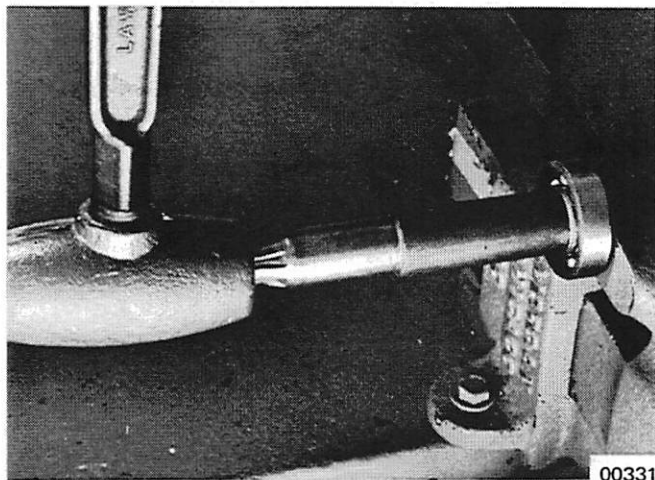

Figure 5. Install Ball Bearing on Drive Shaft
2. Place drive shaft in vise loosely, tapping against pinioned spline end until bearing seats. (Figure 5)